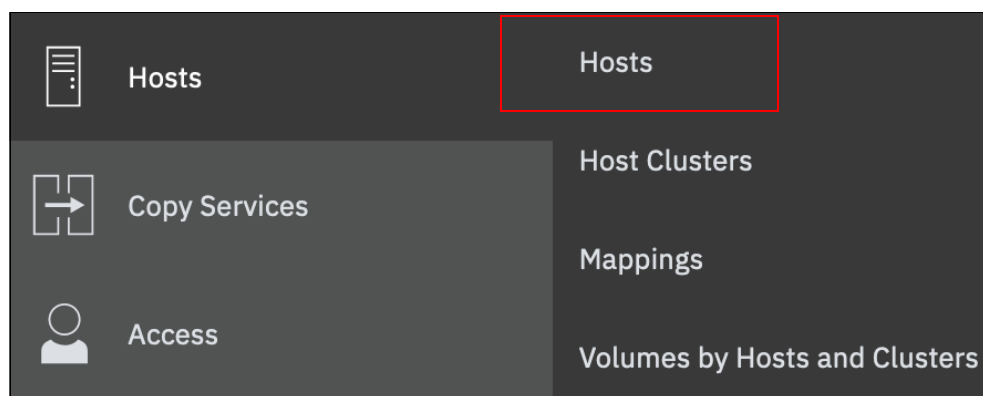

Figure 7-12 Opening the Host window
1. Open the host configuration window by clicking **Hosts** (see Figure 7-12).